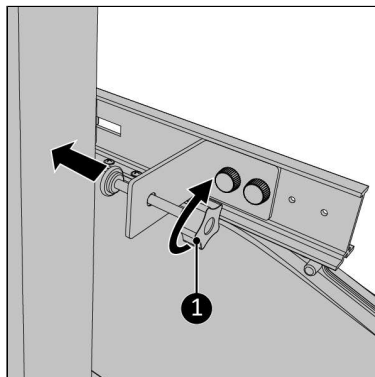

Figure 92.
16. Screw the clamping screw carefully to the window frame (Figure 92, pos. 1).